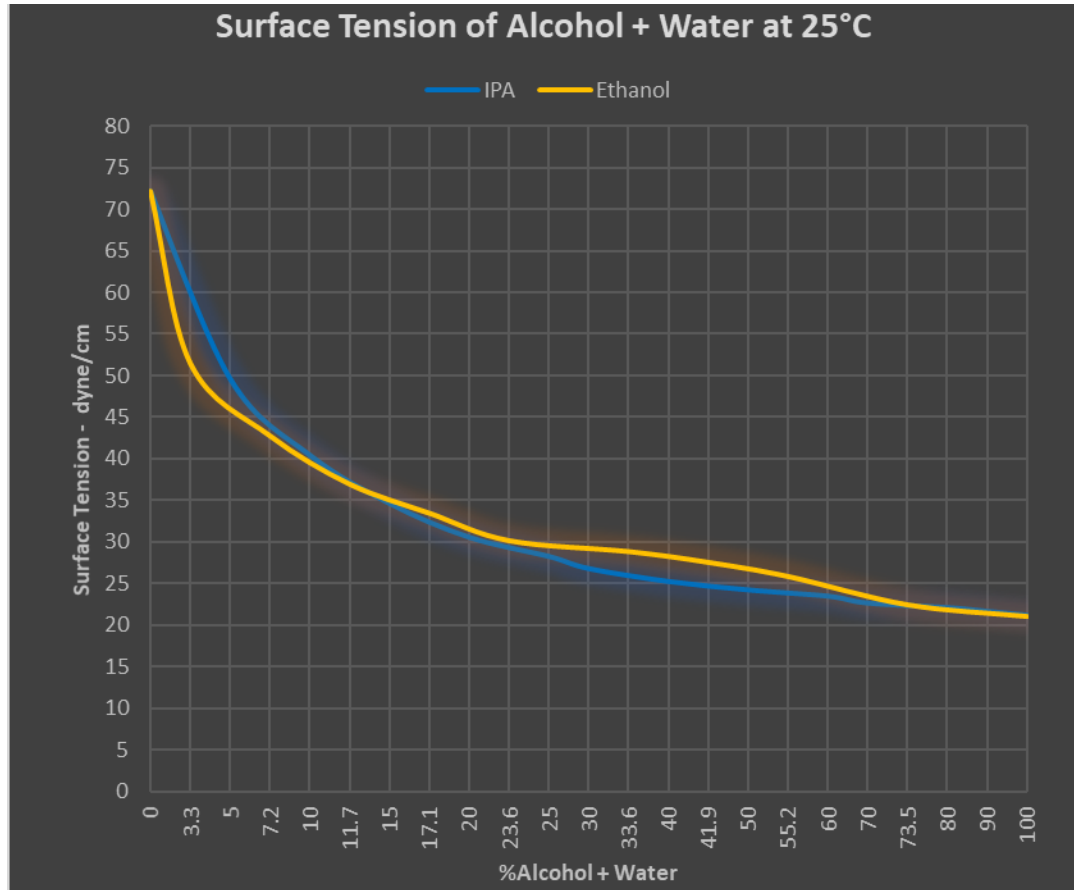

Figure 39 – Water + Alcohol Surface Tensions of at 25°C
- VIII.8.4 However, for aqueous cleaners with alcohol and surfactants, the article abstract "*The Vapor Pressures Of Ethanol-Water Solutions Of Detergents*" by B.D.Flockhart, 1960 (9) indicates that the affinity between detergent and alcohol is strong enough such that the solution boiling point is not lowered, but instead increased. This would imply that alcohol as an ingredient with detergents does not improve drying, so its use is for other purposes such as a co-solvent for other ingredients especially in concentrated forms.
- VIII.8.5 **Figure 39** shows that **Ethanol and** IPA will reduce the water surface tension improving wetting similar to a nonionic surfactant with about 15% to 20% being the optimum concentration for a surface tension of about 34.6 to 30.5 dynes/cm respectively. Data for **Figure 39** is from "*Surface Tension of Alcohol + Water from 20 to 50°C*", Gonzalo Vazquez, Estrella Alvarez, Jose M. Navaza, *Journal of Chemical and Engineering Data*. 1 May 1995 (31). Various forums discuss using just DIW and a few percent IPA and getting improved cleaning, especially for particulate. This result is valid because even 2.5% IPA in water can reduce the surface tension to about 60 dynes/cm, reducing the water-IPA solution contact angle with the record improving the wetting and improving the cleaning especially for fine particulate.
VIII.10.1 *Static Charge Removal with IPA Solution, Tadahiro Ohmi, Seiji Sudoh, and Hiroyuki Mishima, IEEE Transactions on Semiconductor Manufacturing, Vol. 1, No. 4. November 1994.* This article tested the ability of IPA+water solutions to remove charge from Teflon™ (PTFE plastic). Teflon™ per **Figure 29** is one of the most negative materials on the Triboelectric series and has a very low critical surface tension of about 19 dynes/cm. The paper demonstrated the ability of 20% IPA + water and greater % IPA to dissipate the charge from Teflon™. Less than 20% IPA + water did not. The explanation is that 20% IPA + water from **Figure 39** has a surface tension of about 30 dynes/cm and this is able to wet the Teflon™ enough to dissipate the static charge. So, any solution that will ‘wet’ the record can remove static charge.